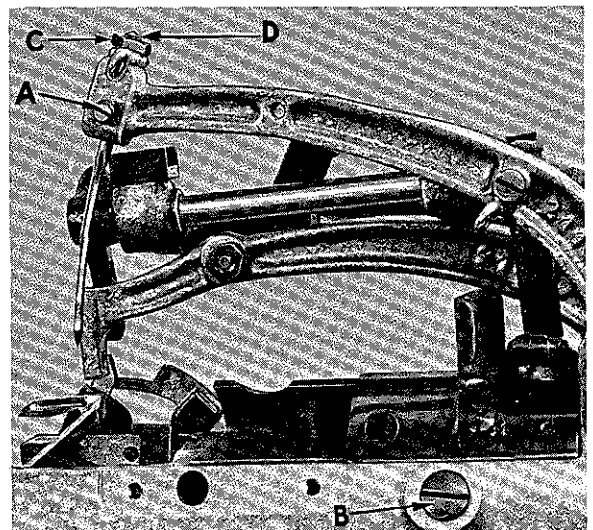

Fig. 2
This machine uses needle Type 9854 size 080. It is inserted in the needle lever with its flat directly under the set screw (A, Fig. 2). The needle should be pushed up in its holder as far as it will go.
In order to make this adjustment remove the plug screw from the front of the frame casting (B, Fig. 2). Here will be found a set screw which holds the looper shaft. Loosen this screw and move the looper shaft to right or left to secure the $\frac{5}{32}$ " looper gauge. Re-tighten set screw.
To change the height of the needle, loosen set screw (A, Fig. 2), then loosen lock nut (C) and regulate the height adjusting screw (D) to the desired position. Re-tighten lock nut and needle set screw.